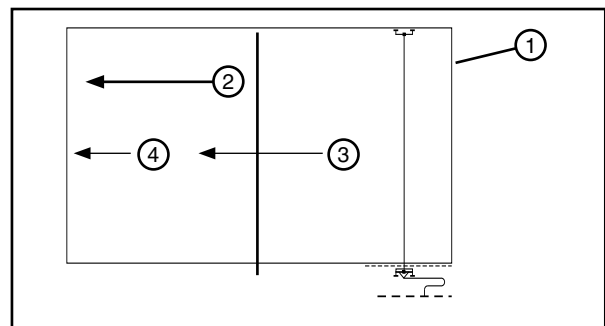

Figure 41-2 1. Field 2. Direction of Travel 3. Wet Deep 4. Wet Shallow
3. The system direction is reversed, the percentage timer is set to the desired application rate and the system is run wet (irrigating) to the middle of the field. See Figure 41-2.
4. At the middle of the field, the percentage timer is set to 100% and the system continues to run wet to the original end of the field. See Figure 41-2.